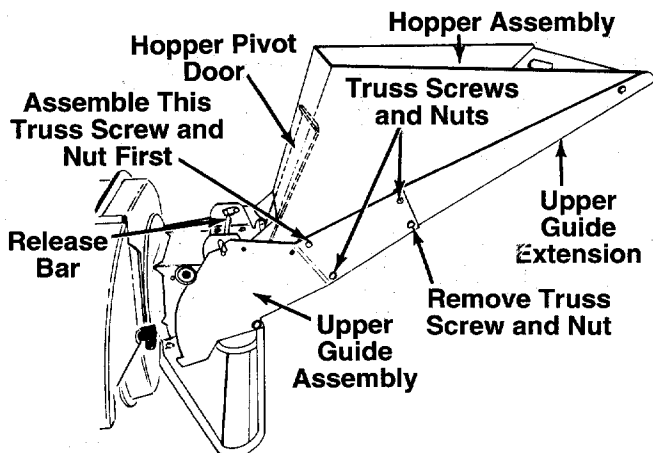

FIGURE 4.
Your shredder has been shipped with the upper guide extension attached to the hopper assembly. See figure 4. Attach the hopper assembly to the upper guide assembly as follows. Be certain to place heads of all truss machine screws **inside** of hopper assembly.
1. Remove one truss machine screw and nut from each side of hopper assembly as shown in figure 4.
- ← 4. **Push hopper pivot door down inside lower part of hopper** as you place hopper assembly (both pieces) **inside** upper guide assembly. Replace truss screws and nuts just removed, using the front upper hole in assembly as shown in figure 4, one on each side. Tighten finger tight only.